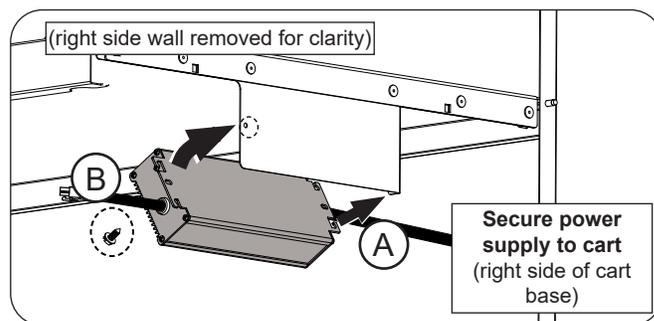

Fig. 10-1 Mount power supply
1. Insert the tabs of the power supply into the slots on the cabinet side wall flange (Fig. 10-1, A). Use the provided screw with a flathead screwdriver or $5/16$ " hex nut driver to secure the power supply into place. See Fig. 10-1, B.